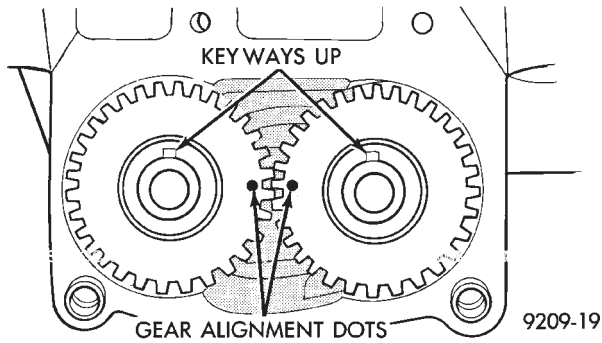

Fig. 39 Gear Timing
(2) Turn balance shafts until both shaft key ways are up Parallel to vertical centerline of engine. install short hub drive gear on sprocket driven shaft and long hub gear on gear driven shaft. After installation gear and balance shaft keyways must be up with gear timing marks meshed as shown in (Fig. 39).